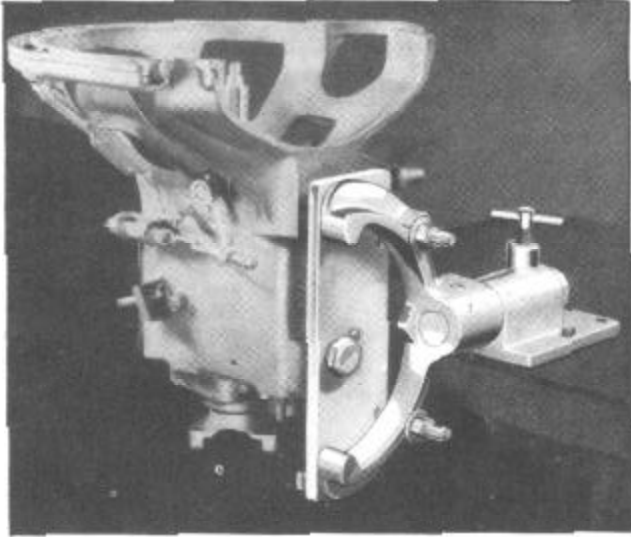

Figure 3--Transmission Holding Fixture J-814
19. Use transmission and differential holding fixture J-814, Figure 3, for doing all work on transmission.